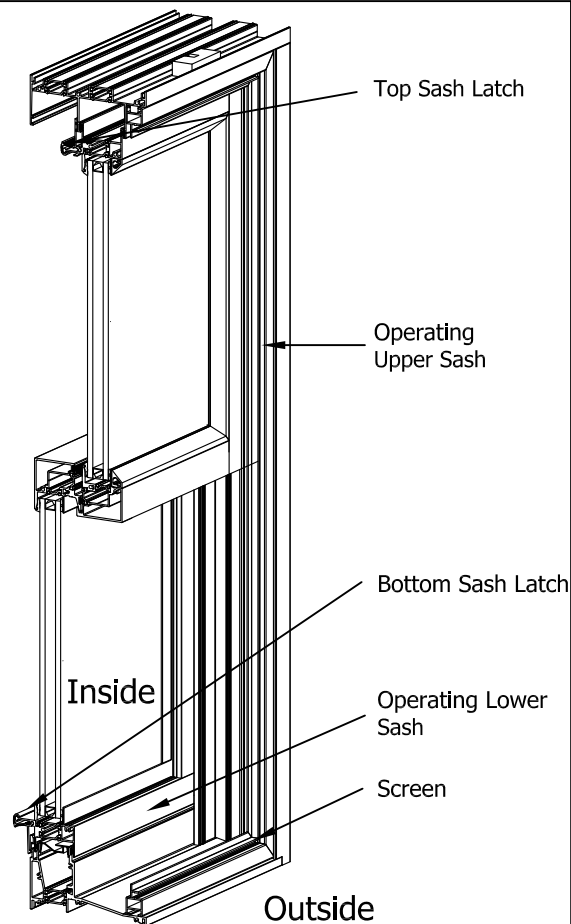

Figure 1A
2. Locate the carrier on each side of the sash and using a tool or your finger engage the sash removal hooks on the carrier. (Figure 1A)